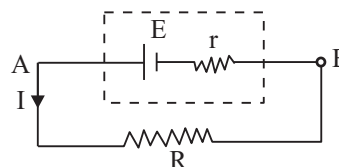

Fig. 23.2
- (iii) When a resistance R is put across a cell of emf \mathcal{E} and internal resistance r (Fig. 23.2), the current drawn from the cell will be